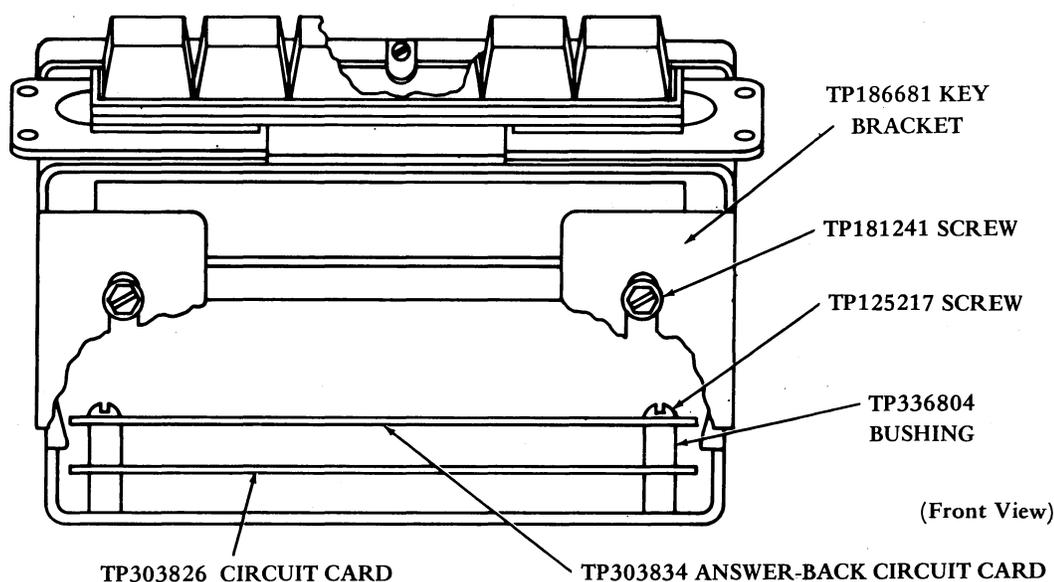

Figure 5 - Mounting of Answer-Back on Set Logic Assembly
5.05 The answer-back circuit card mounts piggyback to the set logic assembly circuit card. Assemble as follows (Figure 5):